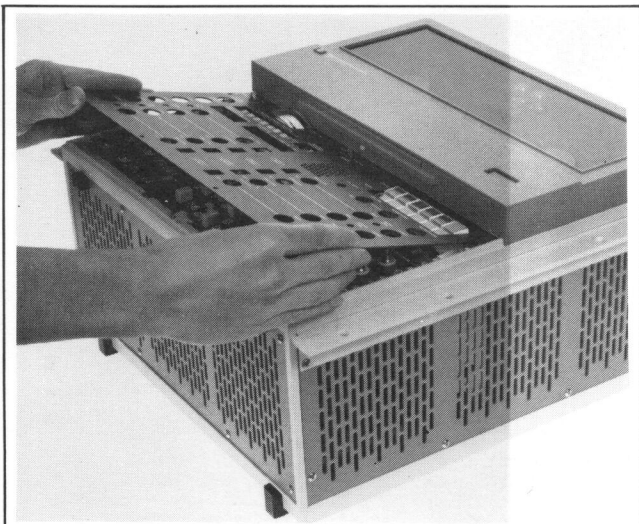

Figure 5-28. Control Panel Replacement
- e. Replace the control panel by inserting the top of the panel under the bottom transport edge with the panel bottom lifted up at about 45 degrees (see Figure 5-28). Then lower the panel bottom slowly while aligning the pushbuttons or knobs with the corresponding panel clearance holes. When the panel is in position, secure with the seven screws.